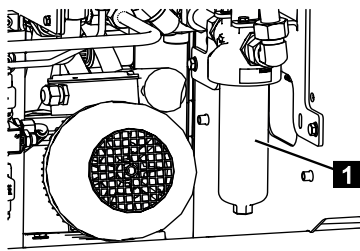

Fig. 244
2. Place a suitable container for hydraulic oil under the filter (Fig.244/1).
3. Unscrew the filter bowl (Fig.244/1).